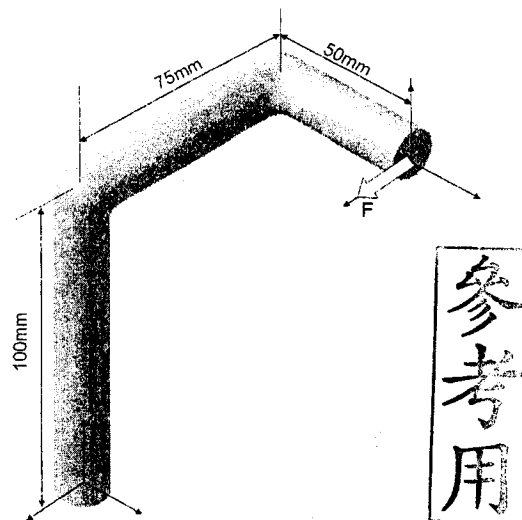

Fig. 4
4. As shown in Fig. 4, the solid rod is fixed at one end and has two  $90^\circ$  bends. A horizontal force  $F$  is applied at the other end, and the radius of the cross section is  $10 \text{ mm}$ . If the maximum allowable shear stress of the rod is  $160 \text{ MPa}$  and a safety factor of  $2.0$  is considered, determine the maximum safe value of the horizontal force  $F$ . Ignore the stress concentration at the bends and the weight of the rod. (25%)